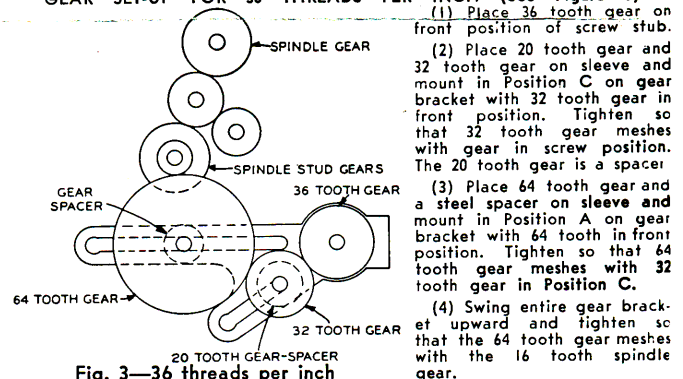

Fig. 3—36 threads per inch
**GEAR SET-UP FOR 36 THREADS PER INCH** (See Figure 3)